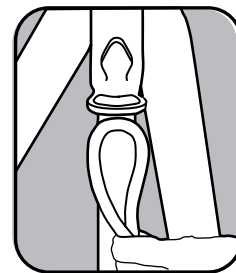

Fig. 2
1. Create a loop in the power cord and push it through the slot and over the hook of the cord retainer (Fig. 2).